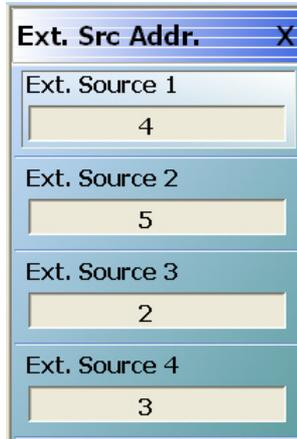

Figure 2-9. EXT. SRC. ADDR. (EXTERNAL SOURCE ADDRESS) Menu
5. The GPIB addresses for the External Sources are changed on the EXT. SRC ADDR. (EXTERNAL SOURCE ADDRESS) sub-menu shown below in Figure 2-9.